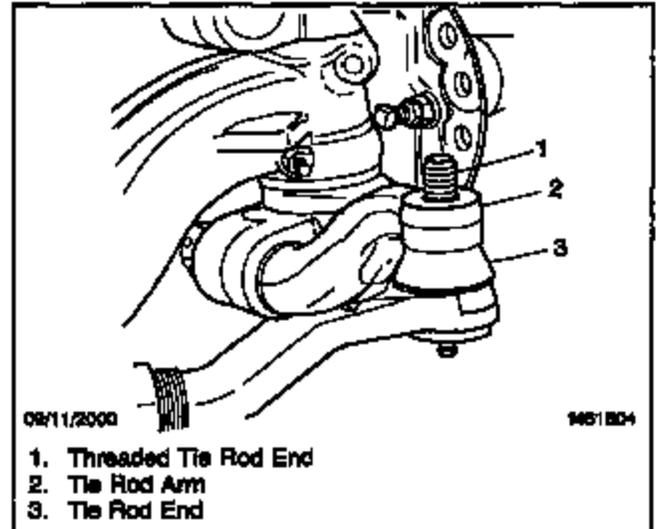

Fig. 9, Tie Rod Arm
2. Push the threaded tie rod end through the tie rod arm hole. See Fig. 9.